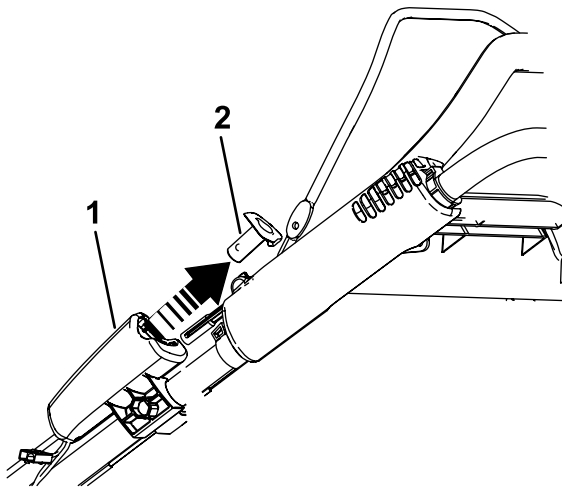

Figure 29
1. Remove the electric-start button as shown in Figure 29 (electric-start model only).